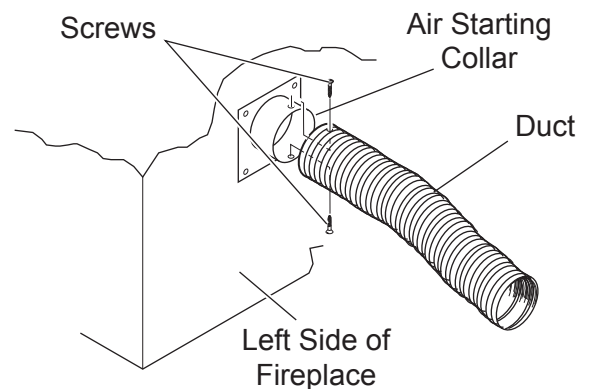

Figure 27 - Attaching Outside Duct to Starting Collar
6. Select and cut a piece of duct long enough to attach to the fireplace and stick out at least 3" beyond the face of the wall to which the AK-4 inlet air vent will be attached. **See Figure 27.**